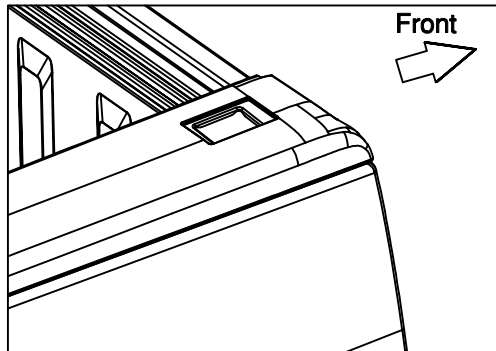

Fig. 1
1. Using a utility knife with an adjustable depth of cut, set the cut depth to 4mm, then cut the indented stake pocket locations out. (See Fig. 1)